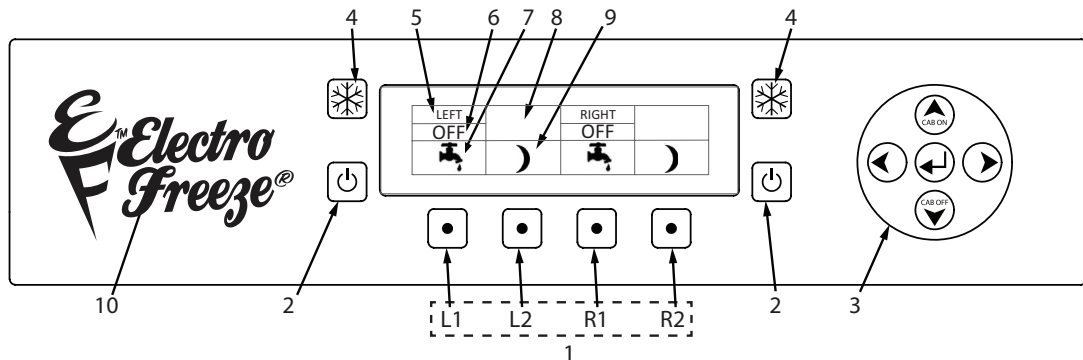

Figure 7-1
To Enter the Operator Menu, push and hold the hidden key (11) under the F for 3 seconds (figure 7-1).